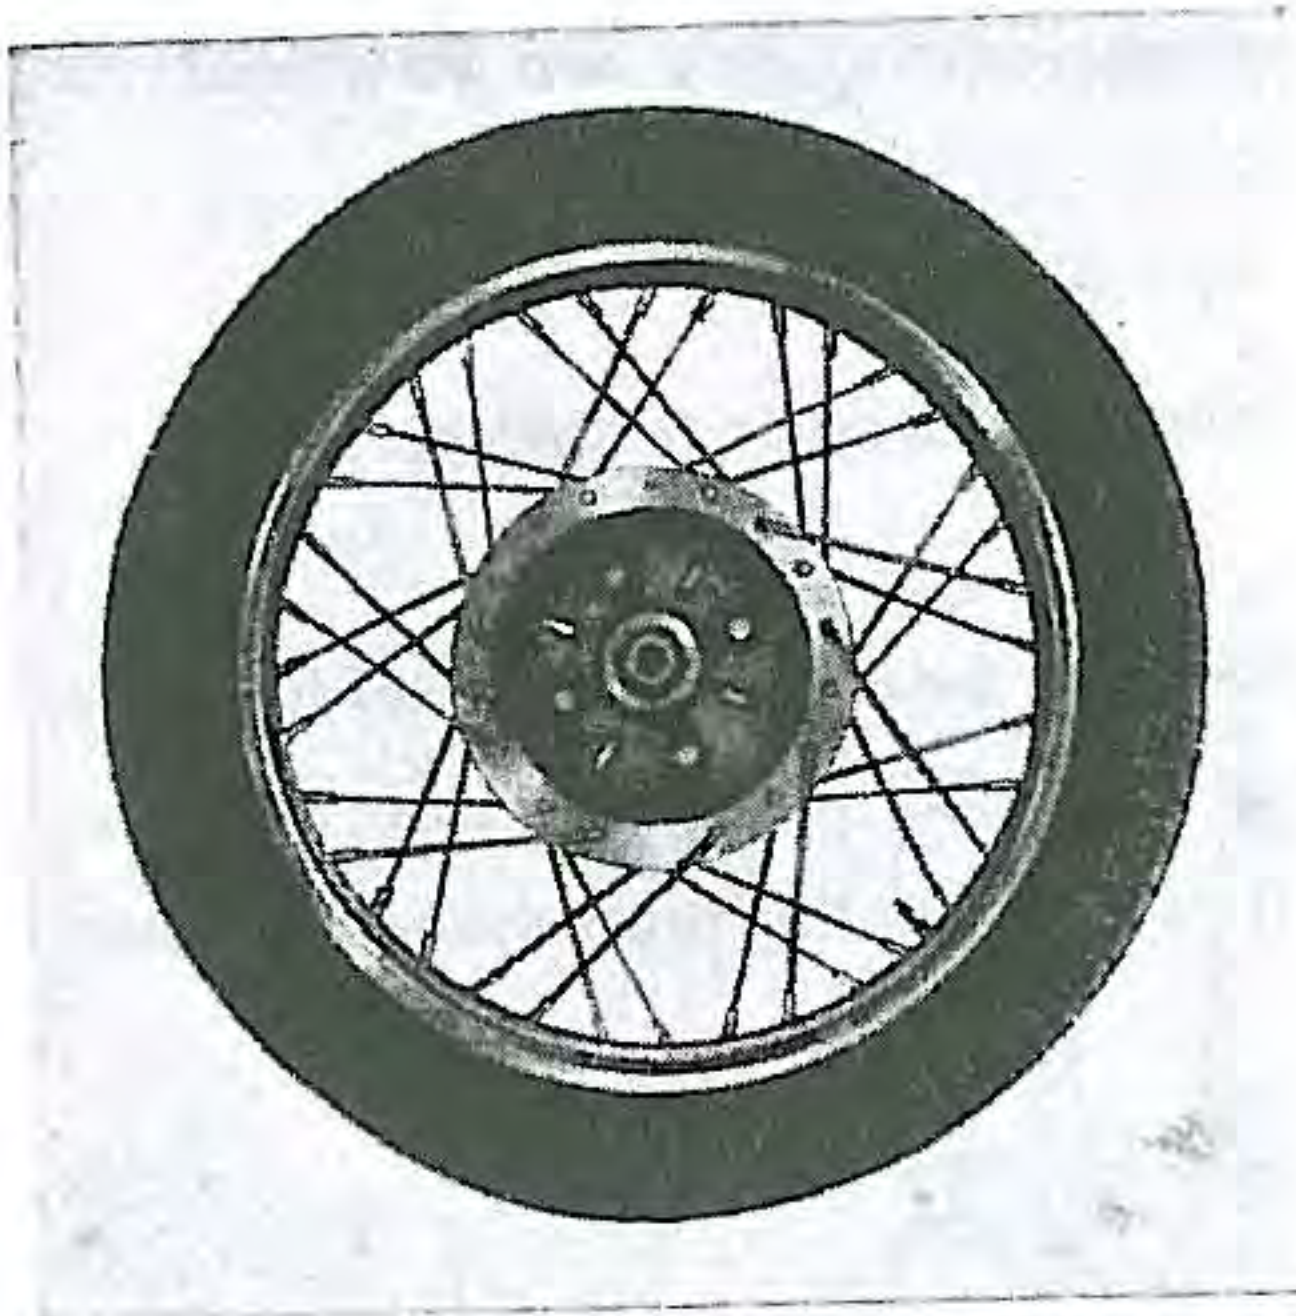

Fig. II-24. Rear wheel and damper (C92 & CA95)
- (2) To dismantle the brake shoes, merely remove the brake springs (for C92 STD & CA95) and remove anchor pin set rings with a set ring remover, and the anchor pin washer. Then withdraw the brake shoes from the anchor pins. (for CB92) (Fig. II-24, II-25)
- (3) The bearings can be taken off by hand but if tightly fit, take out by tapping lightly on the inside. The oil seal can be removed at the same time.
- (4) Wheel bearings and oil seal :-